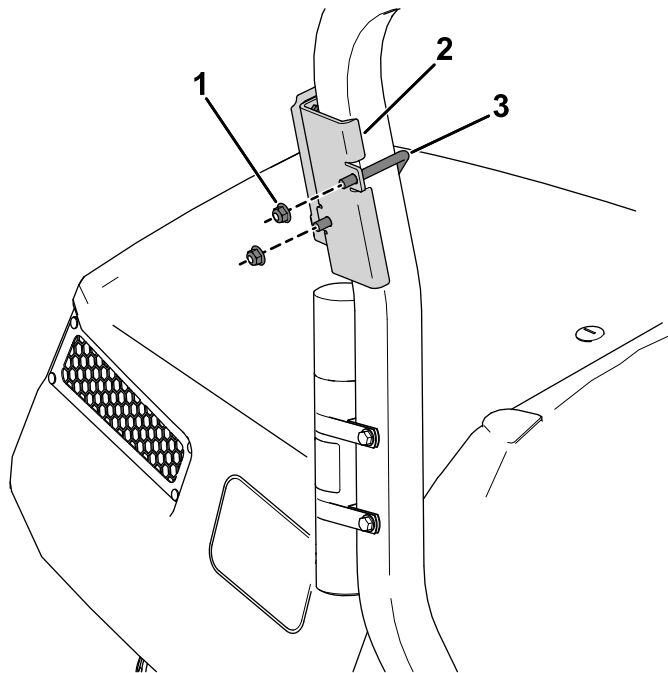

Figure 11
2. Use a U-bolt and 2 flange nuts (3/8 inch) to secure the device bracket to the area above the manual tube on the roll bar (Figure 11).